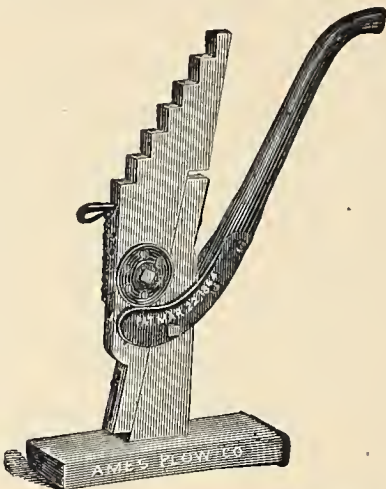

Fig. 476.—Little Giant Wheeljack.
*The Little Giant Wheeljack*, represented by *Fig. 476*, has acquired a great popularity. The ease with which it can be operated, its compactness, lightness, and strength, have given it a reputation above all other implements for the same purpose.